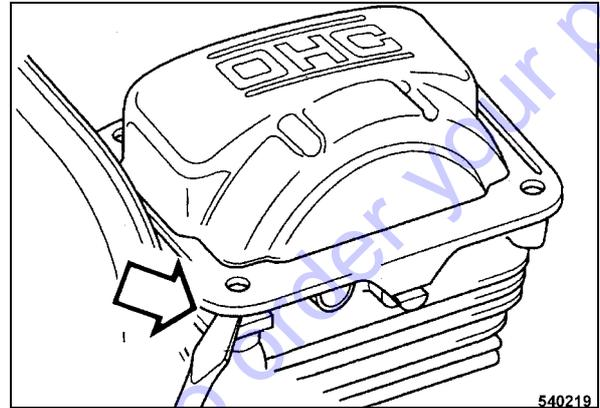

Fig. 46
- Insert the screw driver into the recess (Fig. 46) and take the cylinder head cover carefully off.